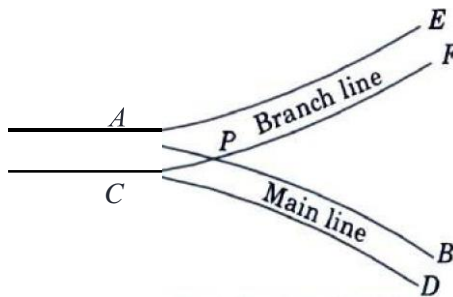

Fig. 2.8.1. Negative superelevation.
2. In Fig. 2.8.1, AB, which is the outer rail of the main curve, must be higher than CD.